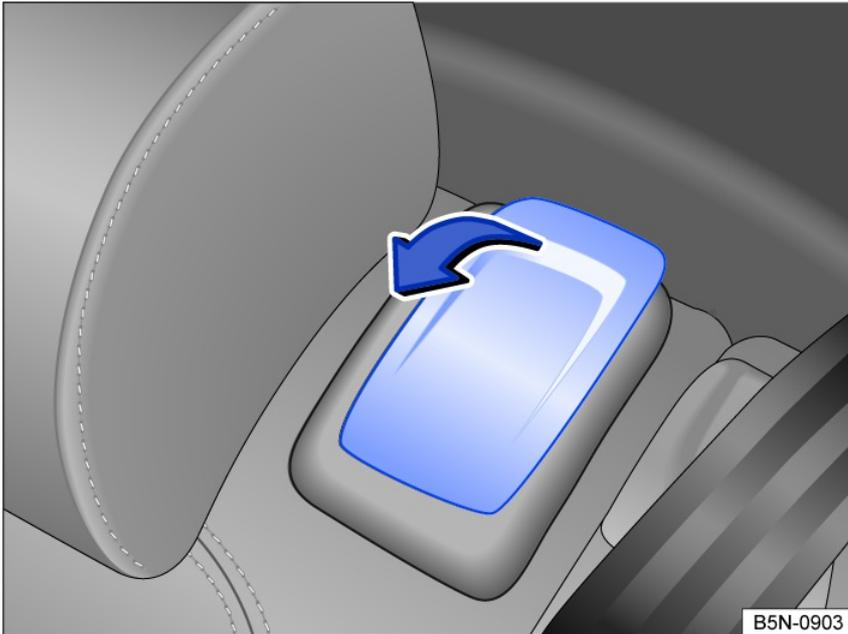

Fig. 95 Second row seats: entry assistance controls.
- Pull the lever *fig. 95* forwards in the direction of the arrow, fold the rear seat backrest forwards and push the seat forwards.
- Pull the lever *fig. 95* and fold the rear seat backrest back into the upright position. The entire rear seat will fold back ⇒ .